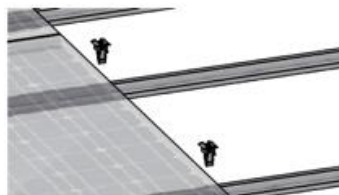

Fig 4.3.1C Positioning middle clamps
- III. Attach middle clamps to rail on the exposed side of the first module [Fig 4.3.1C].